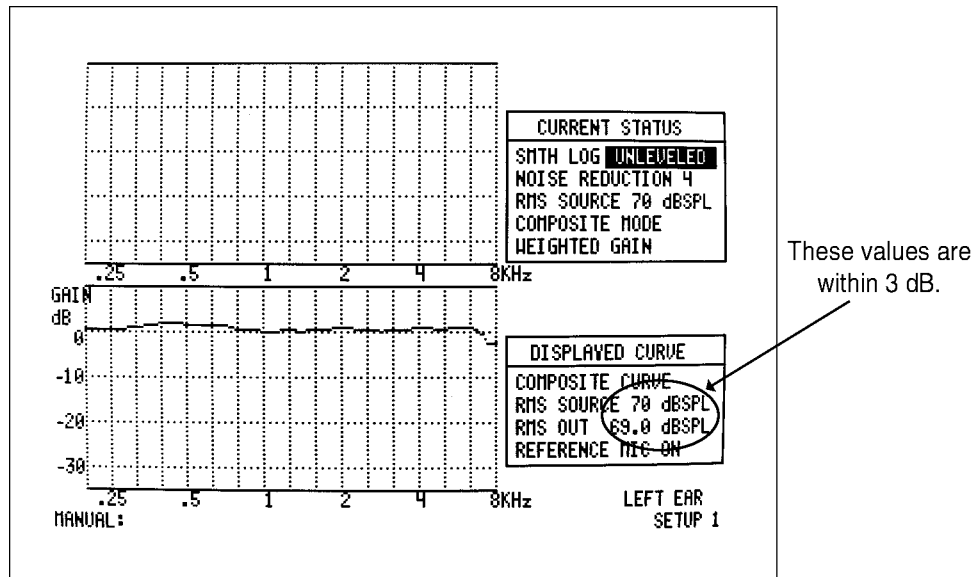

Figure 2.6.5B —Probe sound field calibration
5. Push [START/STOP] to turn on the test signal. Observing the screen display, compare the RMS SOURCE SPL to the RMS OUT SPL. If the levels are within 3 dB of each other, the calibration is correct. See Figure 2.6.5B.